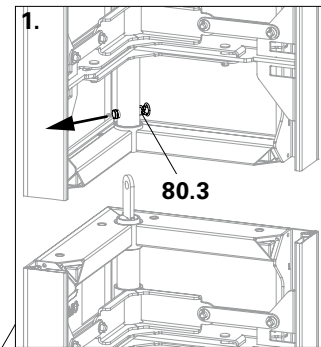

Fig. A11.11a
1. Remove cotter pins and bolts (80.3). (Fig. A11.11a)